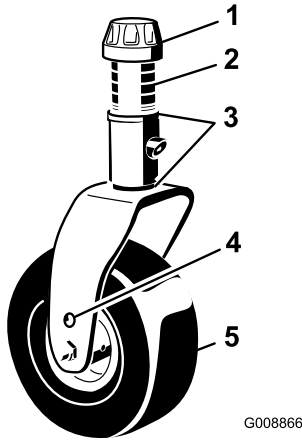

Figure 104
1. Remove the tensioning cap from the spindle shaft and slide the spindle out of the castor arm (Figure 104). Reposition the shims, as required, to raise or lower the castor wheel until the cutting unit has the correct pitch.